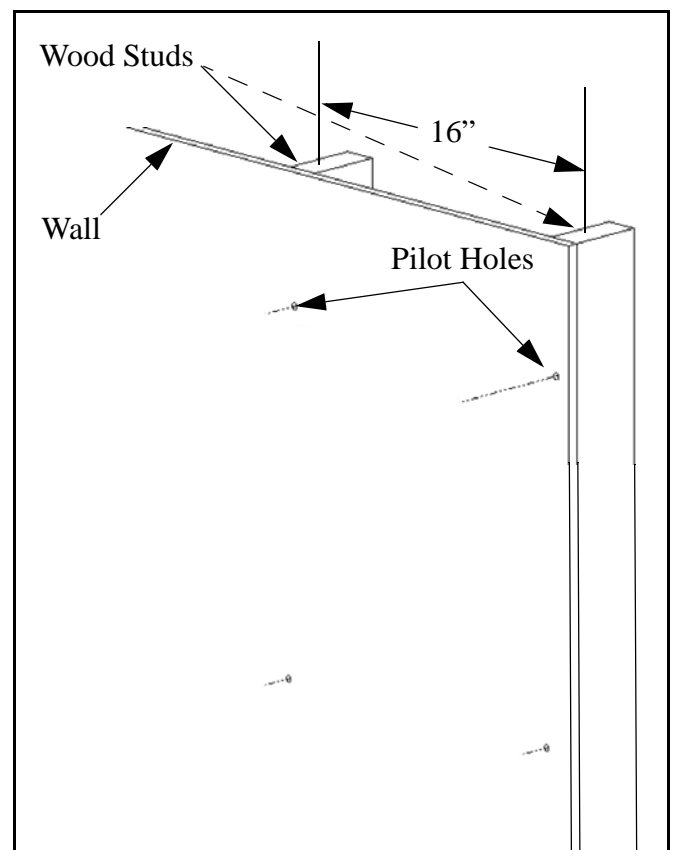

Figure 1: Two Wood studs 16" Apart On Center
7. Drill two pilot holes where the mounting holes were marked for anchoring the top bracket on the PDR. (See figure 1).